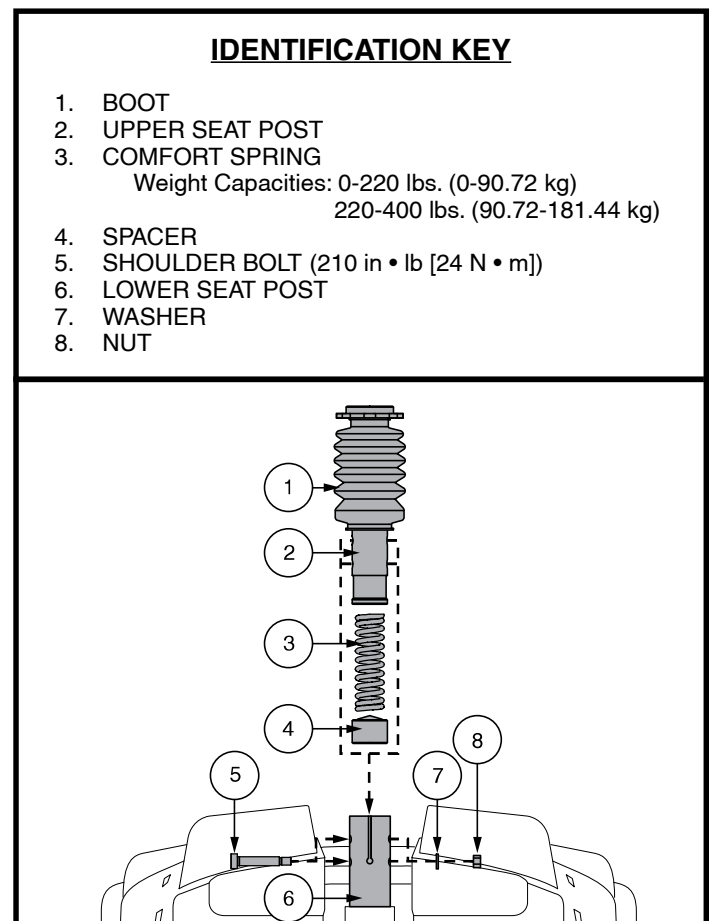

Figure 24. Seat Height Adjustment - Comfort Seat Post
4. Push down on the seat post while loosening and removing the shoulder bolt, washer, and nut. See figure 24.
6. Install the desired spring. **See figure 24.**